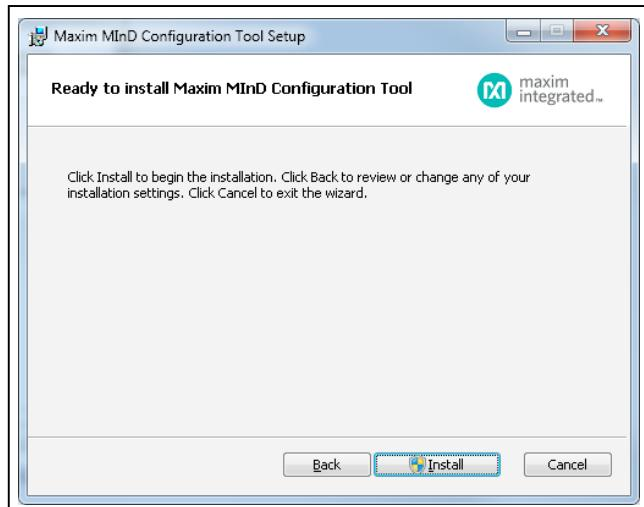

Figure 6. Software Install (Step 4)
- 4) Click **Install** to confirm the previous settings and start the installation (Figure 6).